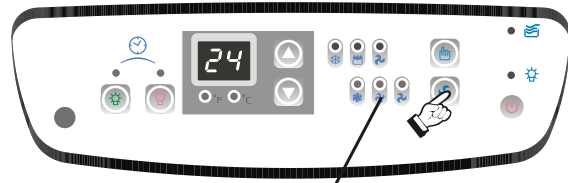

Fig. 18
- 4) Press the **FAN** key to select the desired fan speed setting (**High-Med-Low**). Each depression of the fan key will alternate between the different fan speed settings. Fig.18.